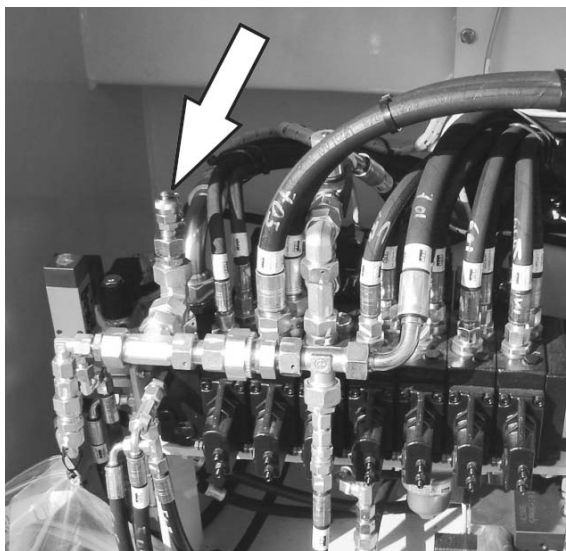

Figure 4-34. Pressure Test Port
- remove the cap and attach a pressure gauge to pressure test port (see Figure 4-34.)